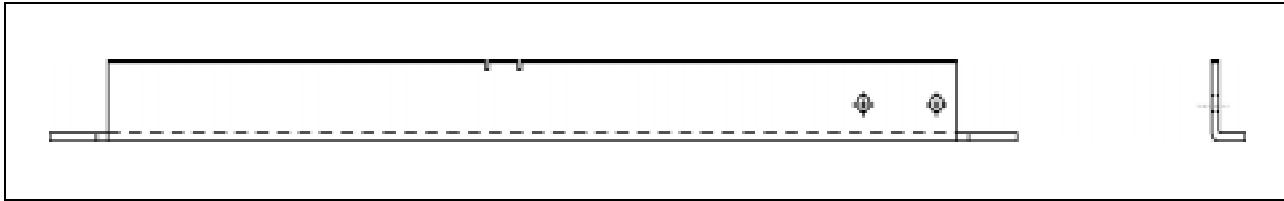

Figure 5: #220977 Support.
19. Install #220977 support (figure 5) underneath the vehicle. Ensure the support holes are lined up with the bottom panel ones' (figure 6, item 6). Weld.